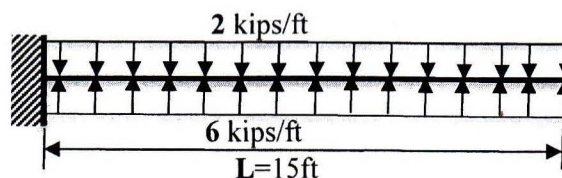

Figure:2
3. Design the Cantilever beam as shown in Fig.2 using **USD** method with proper detailing. (21)